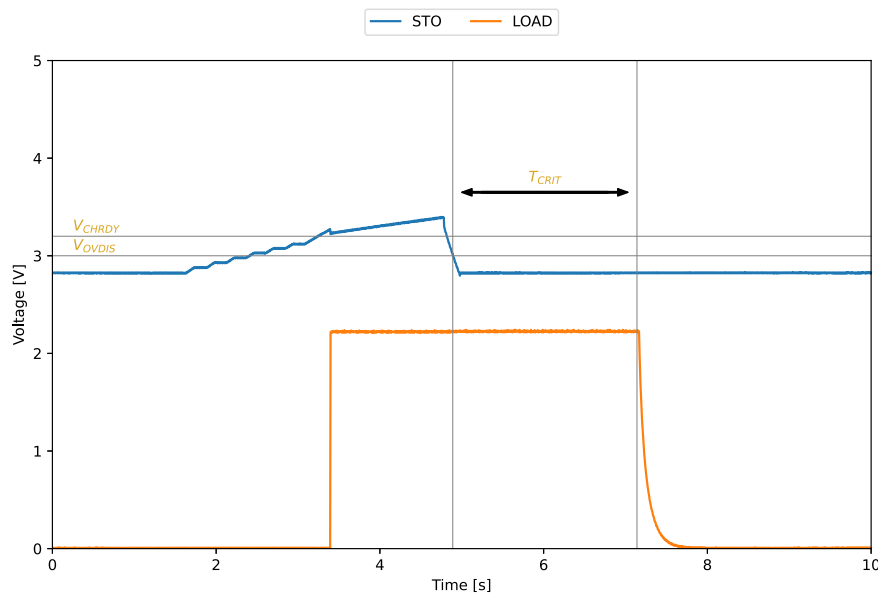

Figure 4: AEM10920 LOAD output behavior
- Disconnect the power supply from **SRC** (done at about 4.75 s on Figure 4).
**NOTE:** in a real application, the storage element would be a battery or a supercapacitor, with much higher stored energy, so that  $V_{STO}$  would not drop as low as on Figure 4 during  $T_{CRIT}$ .